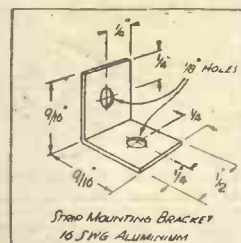
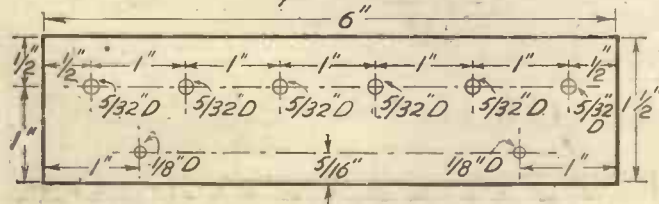

Fig. 4.—Two of these brackets are used to fix the terminal strip to the top of the "Easy-Cabinet."
Fig. 3.—The number of terminals is kept to a minimum by making some of the battery-connections direct between the batteries themselves.
(F) Mark out and drill the terminal strip as Fig. 3. Prepare two mounting brackets as Fig. 4.